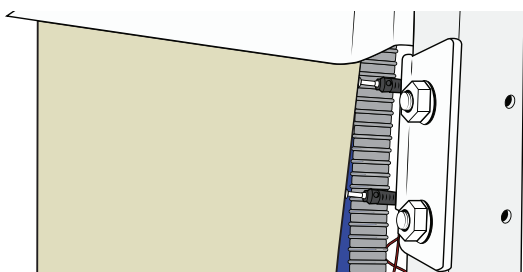

Figure 52
30. Cut the cable ties and disconnect the two banana connectors (level sensors) on the chassis, right side. See Figure 52.